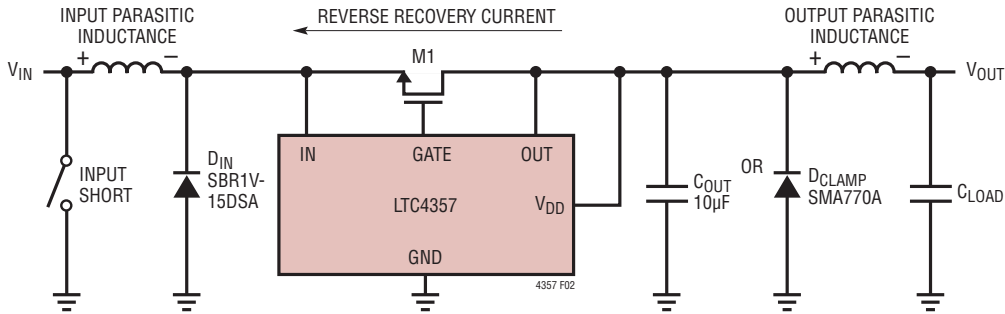

Figure 2. Reverse Recovery Produces Inductive Spikes at the IN and OUT Pin. The Polarity of Step Recovery Spikes is Shown Across Parasitic Inductances
*SEE FIGURES 2 AND 3 FOR ADDITIONAL OPTIONAL COMPONENTS
To prevent damage to the LTC4357 under conditions of input short-circuit, protect the IN pin and OUT pin as shown in Figure 2. The IN pin is protected by clamping to the GND pin in the negative direction. Protect the OUT pin with a clamp, such as with a TVS or TransZorb, or with a local bypass capacitor of at least 10 μ F. In low voltage applications the MOSFET's drain-source breakdown may be sufficient to protect the OUT pin, provided $BV_{DSS} + V_{IN} < 100V$.